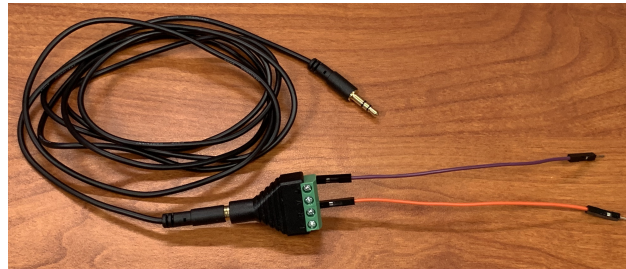

Figure 14: Connect the male-to-male audio cable to audio input jack.
- 5.3. Use the male-to-male audio cable to connect to the audio input jack. See Figure 14.